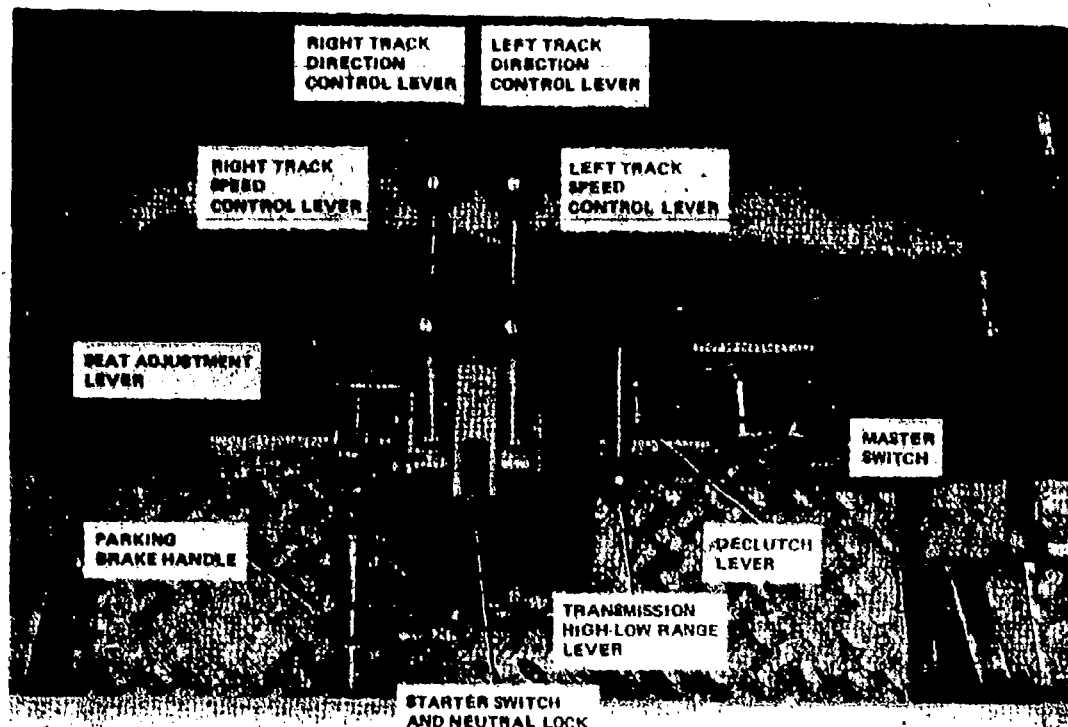

Fig 4-3. Case MC 1150 control levers.
- (p) Transmission control levers (steering controls) (fig 4-3). The left and right control levers are located on the control console. The levers operate independently, each controlling one track, thus permitting the tracks to operate in opposite directions.